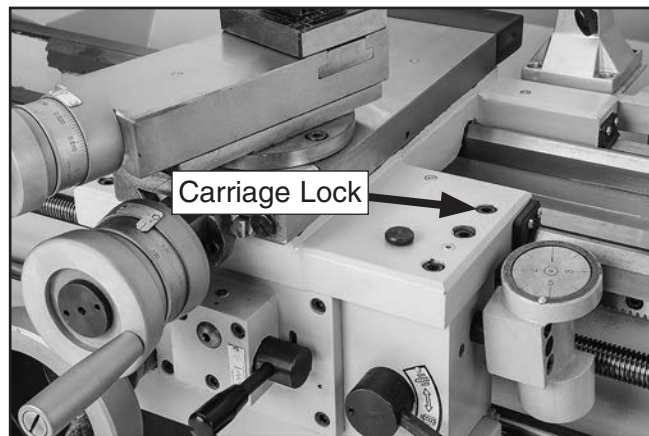

Figure 126. Location of carriage lock.
The saddle is supplied with a carriage lock cap screw on the front right-hand side of the slide (see **Figure 126**). This lock secures the saddle for increased rigidity when making face cuts. Before making adjustments to the saddle gib, make sure that this lock is loose by turning it counterclockwise one full turn.
3. If carriage lock (see **Figure 126**) is tight, loosen it two turns.